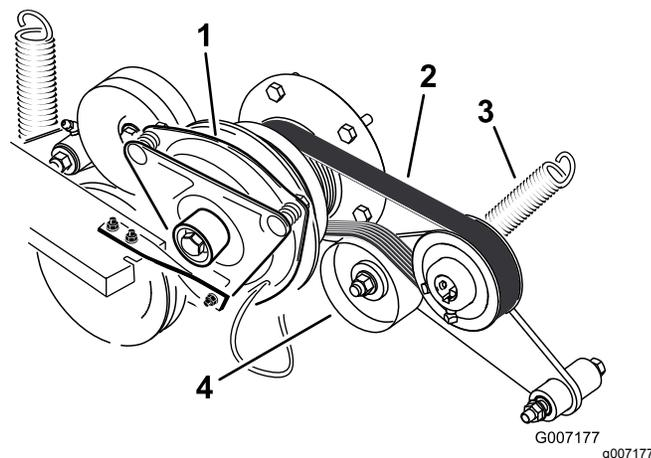

Figure 94
3. Remove the spring from the idler arm (Figure 94).
4. Install the new belt around the engine and hydraulic pump pulley (Figure 94).
6. Install the spring to the idler arm (Figure 94).